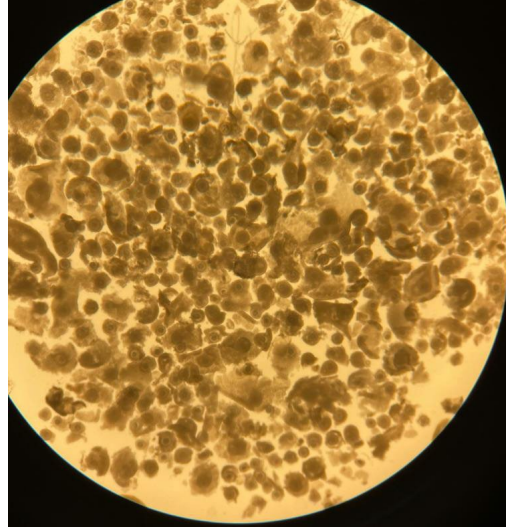

Figure 15. COCs after being washed and prior to move to maturation dish.
- 8) After completing COC search starting the washing step. Transfer oocytes from the first well to the second well, then to third and then fourth (last well), leaving all debris behind. Moving oocytes from one well to another assure that the oocytes are clean of debris (Figure 15). This can be completed using a wiretrol pipet, microdispensor pipet, or the instrument of your choice for handling oocytes.